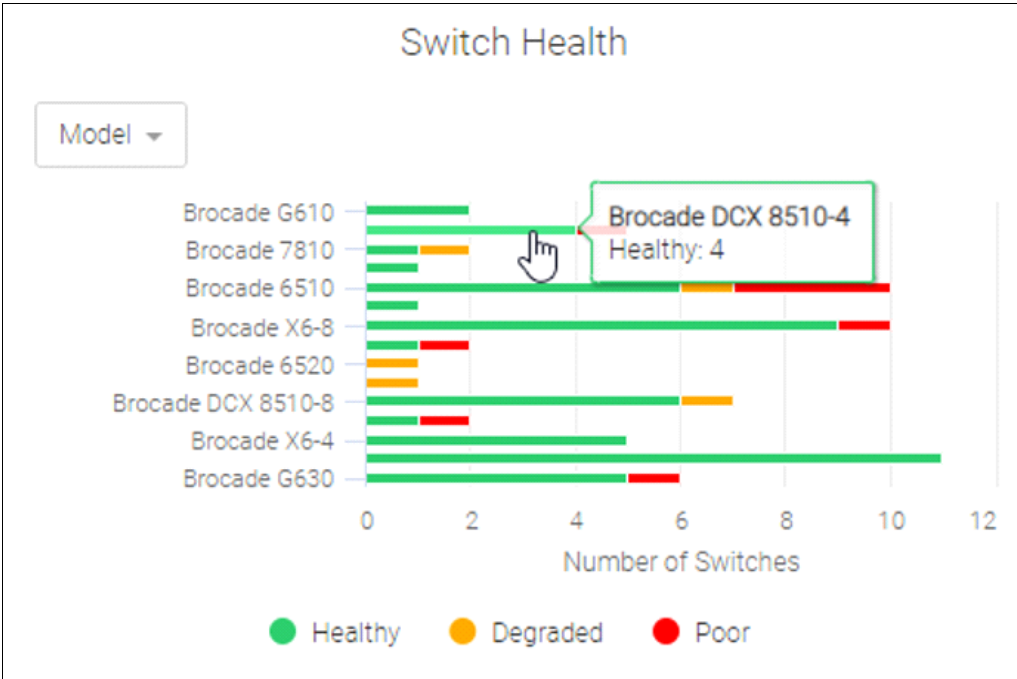

Figure 11-51 Switch Health: Model
2. Hover over the graph to display details (see Figure 11-51). For the Firmware Version and Model categories, more bars might be displayed in the graph than are listed in the row names on the left. In this case, hover over an intermediate bar in the graph to display the details.